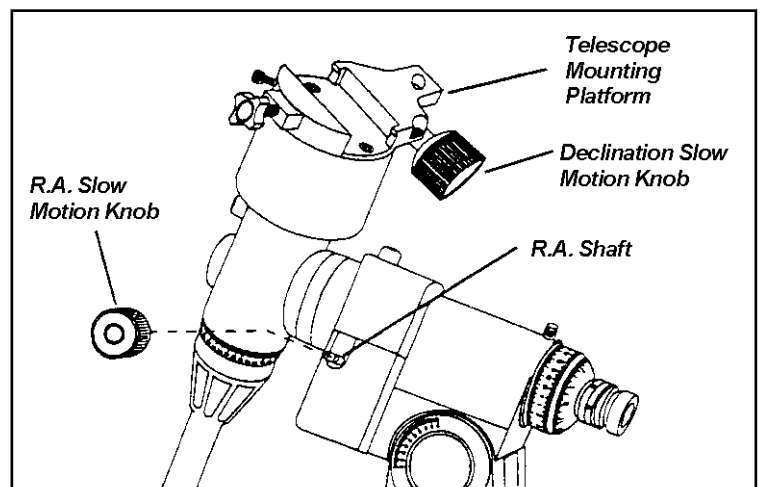

Figure 2-7
3. Line up the flat area on the inner portion of the R.A. slow motion knob with the flat area on the R.A. shaft (see Fig 2-7).